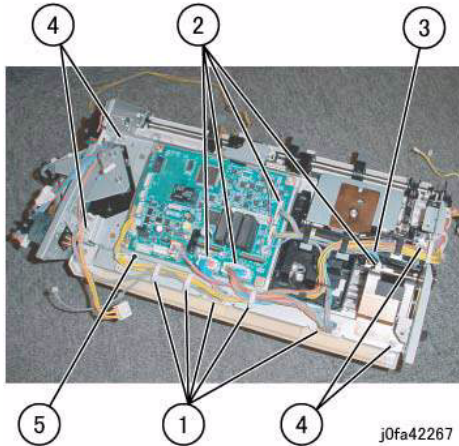

Figure 2 Removing the Bottom Plate (j0fa42267)
7. Remove the Bottom Plate. (Figure 2)